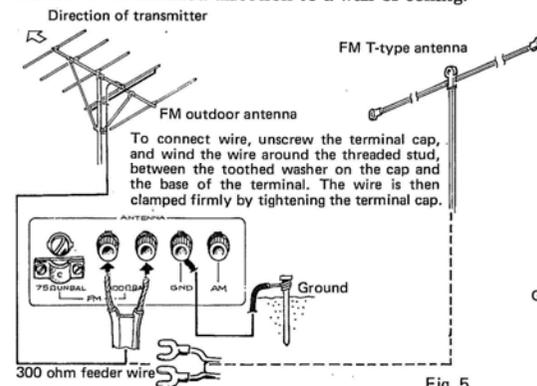

Fig. 5
**FM outdoor antenna:** As shown in Fig. 5, connect antenna feeder wire to the 300 ohm terminals of the SX-650. While FM reception is in progress, install the antenna and determine the location and mounting providing optimum signal strength. Detailed instructions are contained under, "FM Reception on page 10."
**Indoor antenna:** When stations are nearby and in wooden frame buildings, etc., where strong FM signals are received, the accessory T-type antenna can be used. As with the outdoor antenna, the T-type antenna is connected to the 300 ohm terminals of the receiver, as shown in Fig. 5. While FM reception is in progress, spread the ends of the antenna apart and holding it horizontally, turn the antenna through a 180° arc to determine which orientation provides the best signal. Once this orientation is decided, the antenna should be secured in determined direction to a wall or ceiling.
While reception is possible without use of grounding, for the sake of safety and reduced electrical noise, it is recommended that the receiver be grounded by means of the GND terminal, as shown in Figs. 5 and 7.